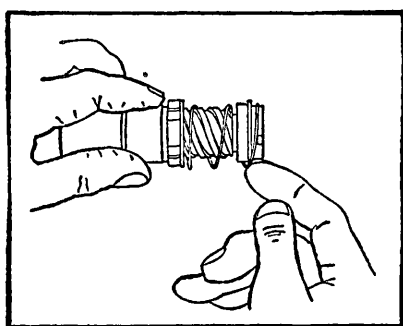

Fig. 4.
3. Pull the screw sleeve back its full length of travel, and with a rotary motion rethread the anti-drift spring onto the screw sleeve until it presses against or abuts the bronze washer. By using the first finger as a guide, see Fig. 4, lastly ease the outer end of the spring over the stop nut shoulder.